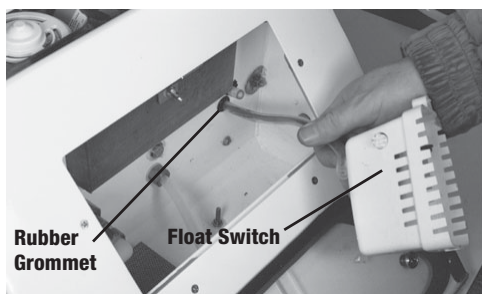

Figure 10
5. Remove thumb-nut from float switch and pull float wires through rubber grommet (fig. 10).